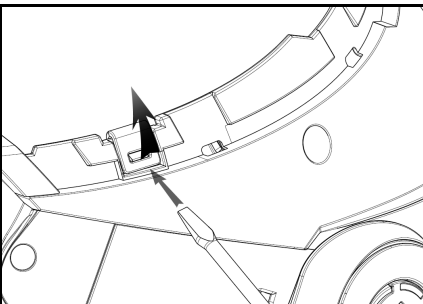

Fig. 9
- Unhook the right and left clips from the shell, levering upward using a flat head screw (or a similar tool), as shown in figure 9.